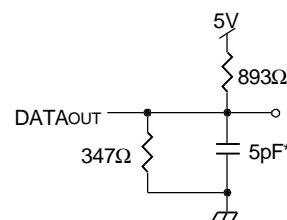

Figure 2. Output Test Load
1. Transition is measured  $\pm 200\text{mV}$  from Low or High-Impedance voltage with the Output Test Load (Figure 2)
1. Transition is measured  $\pm 200\text{mV}$  from Low or High-impedance voltage with the Output Test Load (Figure 2).
7. Transition is measured  $\pm 20\text{mV}$  from Low or High-impedance voltage with the Output Test Load (Figure 2). This parameter is guaranteed but is not production tested.